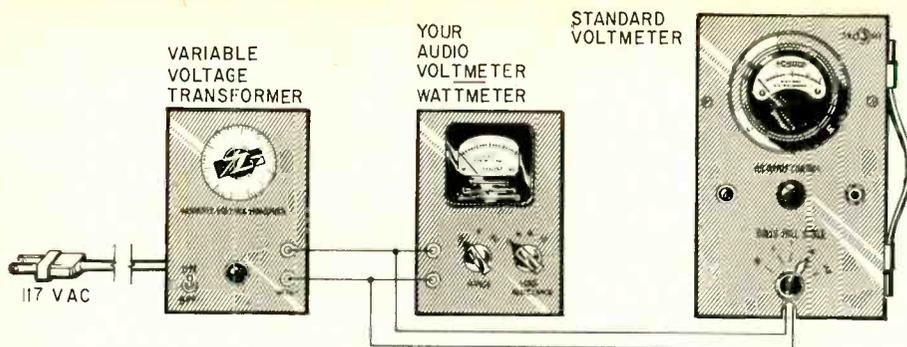

Fig. 2—Block diagram shows hookup for calibration.
1. Connect the standard voltmeter, the variable voltage source and the meter you have just built as in Fig. 2.
This completes the meter multiplier calibration and you are now ready to plot a scale for your meter. Use the arrangement shown in Fig. 2 and remember that the more calibration points you plot the more accurate your meter will be. You'll find the 0.5-volt range is nonlinear. It must have a separate scale. The other two ranges are very linear and one scale can be used for both. You can mark this scale from 0 to 5 and use a mental multiplier of 10 when you use the 50-volt range. You can also add a wattmeter scale if you like, or you can make a conversion chart like the one in Fig. 3. Unless you have installed new meter dial scales before, better use the calibration chart. A microammeter magnet will attract any iron filings within a radius of several inches. I can speak from first-hand experience here since I nearly ruined